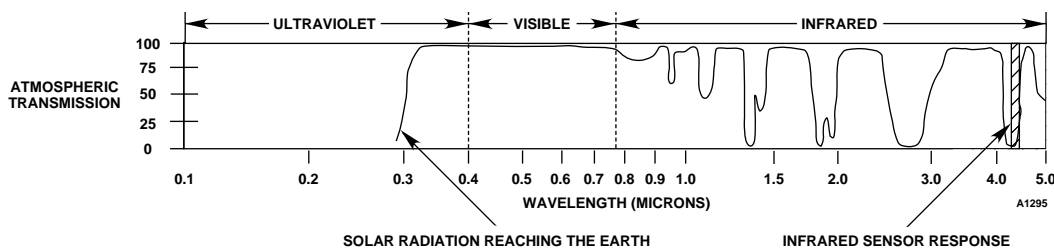

Figure 5—Detector Sensitivity Range
2. Atmospheric transmission of IR from the sun at 4.4 microns is practically zero, making the C7098B solar blind. See Figure 5.